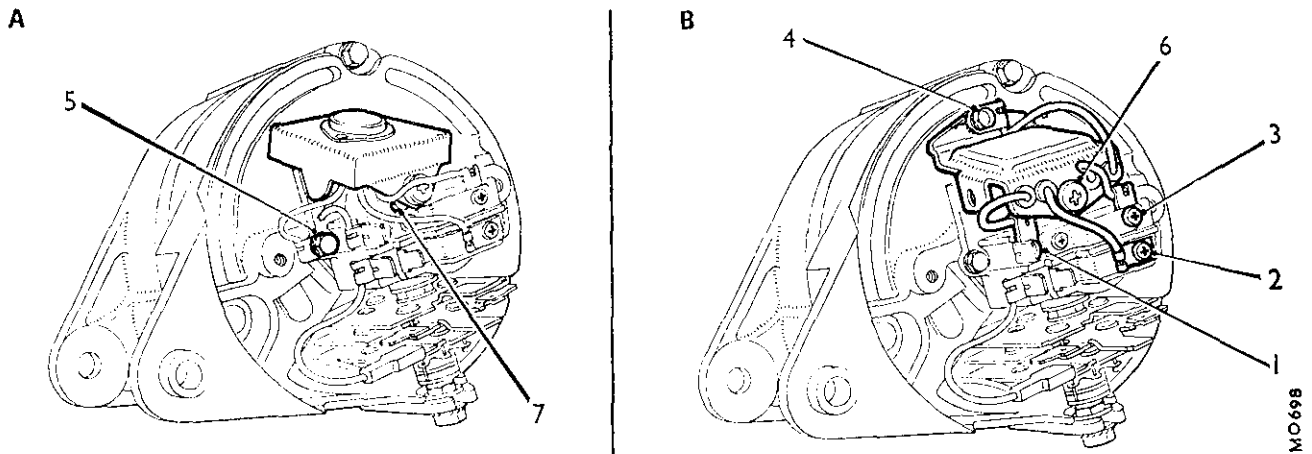

Fig. Nb.12
- (4) Switch on the ignition and connect up a voltmeter with its negative lead to earth and with its positive lead to each cable connector blade of the two connector blocks in turn. If battery voltage is not available at any cable, locate and remedy the fault.
- (5) Remove the alternator end cover.
- (6) The leads from the in-built regulator to the alternator are unmarked. Refer to Fig. Nb.12 and then bridge the regulator field connector to a suitable earth, such as the earth-lead tag.
- (7) Refit the three-way connector block to the alternator. Do not refit the two-way connector block, instead, connect an ammeter in series with its positive blade and the main positive output terminal of the alternator. Do not make any connection to the inner (negative) main terminal.
- (8) Start the engine and run it at 2,800 r.p.m. The ammeter should read 34 amps. nominal. If the correct alternator output cannot be obtained, repair or replace the alternator.